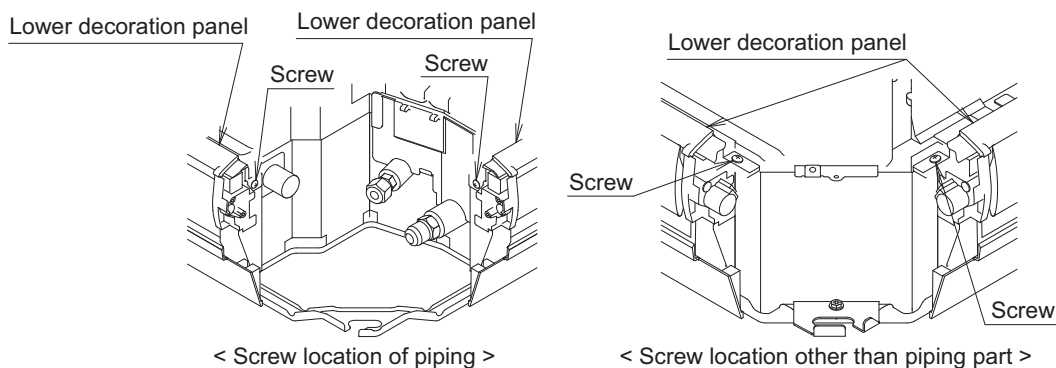

Fig.14
- * If the blocking material is difficult to insert, loosen the left and right screws of the lower decoration panel and insert it. Make sure to tighten the loosened screws again after the blocking material is fixed. (Refer to Fig. 14)